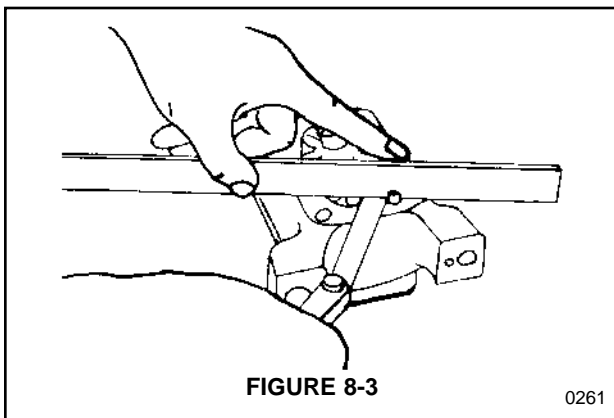

FIGURE 8-3
4. With both gears still in the housing, use a straight edge and feeler gauge to measure the gap between the outer face of the gears and the pump cover. See Figure 8-3. Allowable clearance is between 0.025 mm (0.001") and 0.089 mm (0.0035"). Replace the cover or gear(s) if clearance is exceeded.